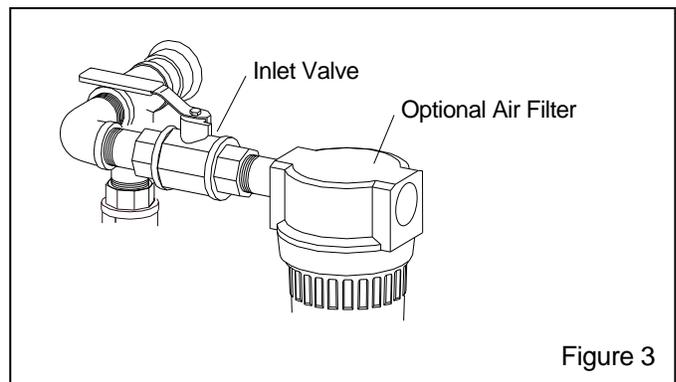

Figure 3
2.3 Install Optional Air Filter (Moisture Separator) Figure 3
2.3.1 Install an optional compressed-air filter to the inlet valve as shown in Figure 3. It is recommended that a filter be installed at this location to remove moisture from air before it enters the machine. If problems with moisture persists after installing the filter, a dryer or aftercooler may be required in the air-supply line.